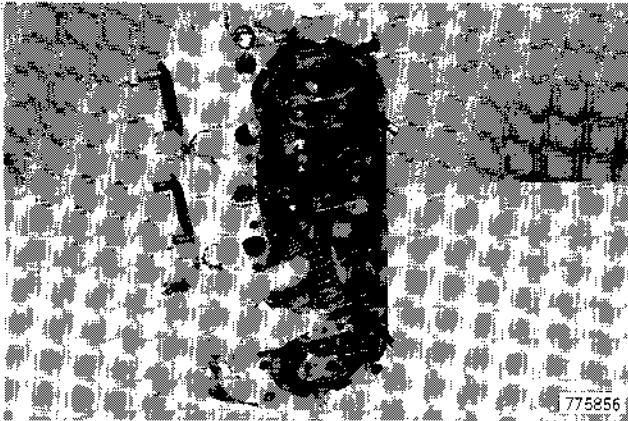

Figure 124
2. Install the valve spring on the valve stem, Figure 124. The springs color coded yellow are the exhaust valve springs.